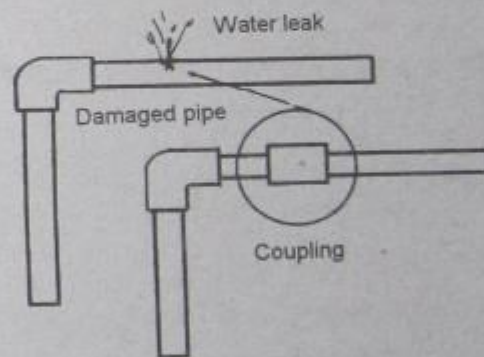

FIGURE 3-15 REPAIRING DAMAGED PLASTIC PIPE
9. Correction or repair of lines may be done by cutting the pipe at a reasonable distance away from the side of the fitting then connect with coupling or socket. (See figure 3-15).